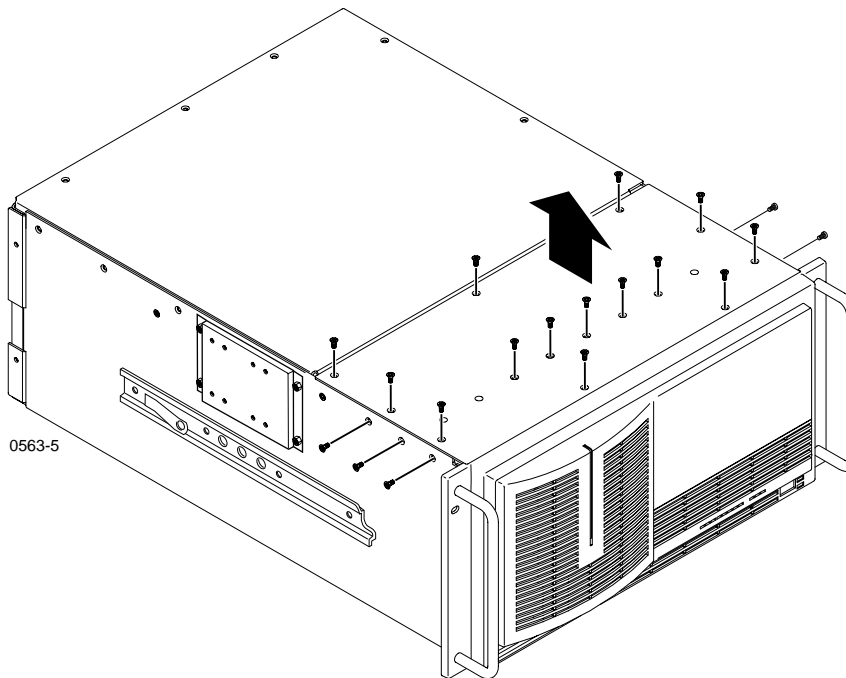

Figure 1. Removing the Top-Front Cover
2. Use the Torx tool with the T10 tip to remove the top screws from the front chassis cover as shown in Figure 1, then use the T15 tip to remove the pan-headed screws from the side of the chassis. Remove the top-front cover.
NOTE: Take care not to lose the chassis screws—they are required to meet EMI specifications for the Profile system. Your system may contain more or less screws in the front panel than shown in Figure 1 depending on how many disk drives are installed.
NOTE: Take care not to lose the chassis screws—they are required to meet EMI specifications for the Profile system. Your system may contain more or less screws in the front cover than shown in Figure 1 depending on how many disk drives are installed.